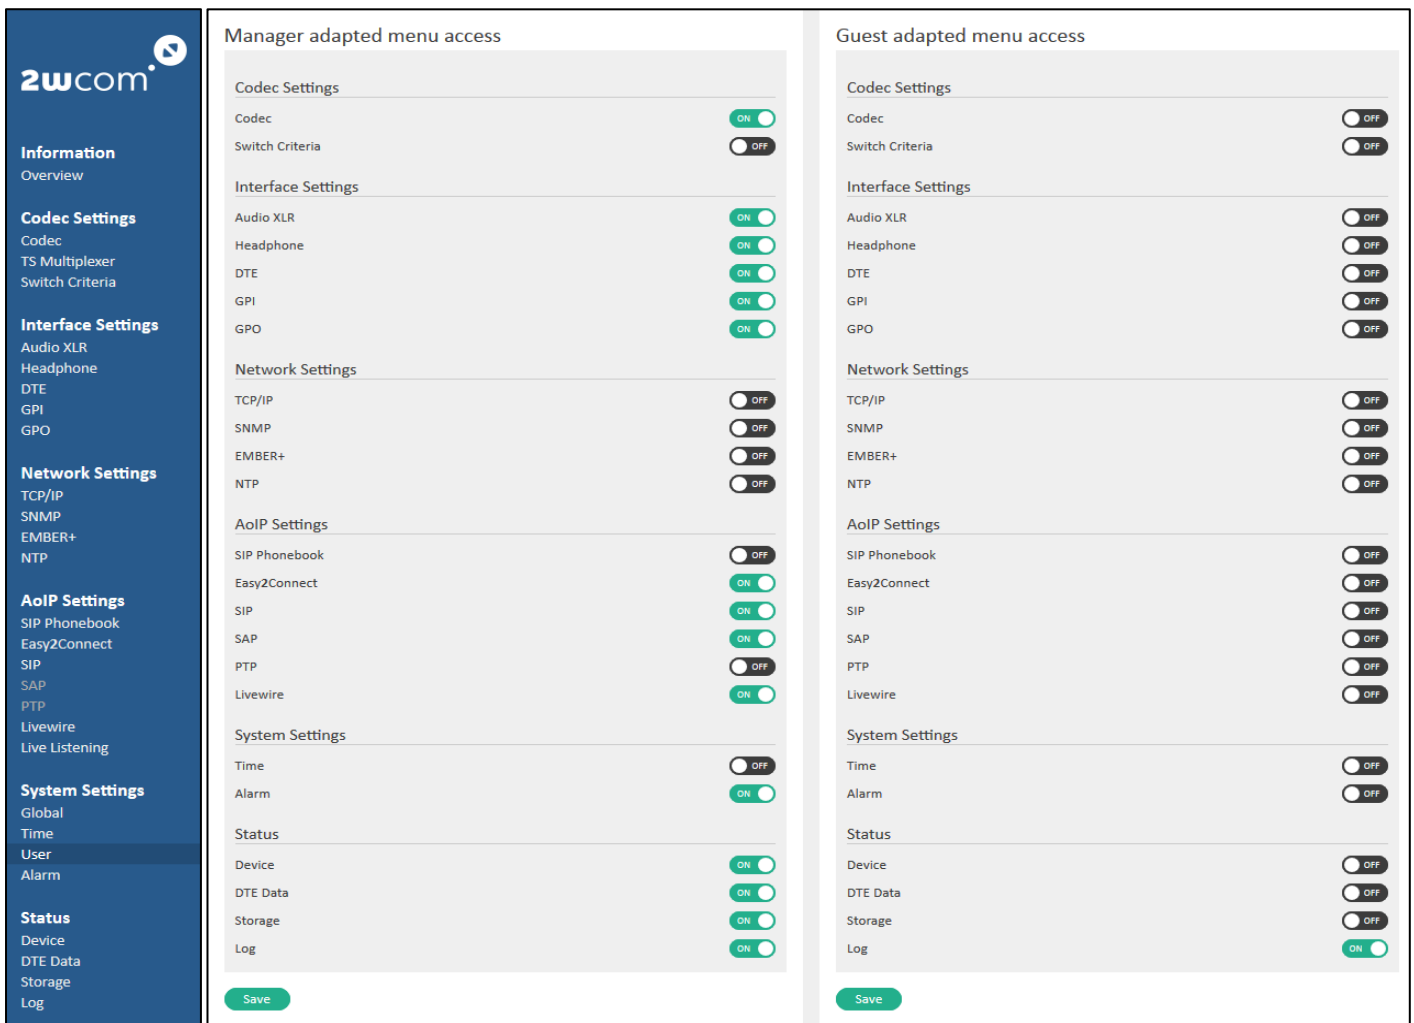

Figure 96: User - Configuration of the menu access
NOTE: Certain settings are **not** available in the “Manager” account. The access to separate menus can be adapted by the “admin” (see Figure 96 on page 108).
2. In the additional fields “Manager-” and “Guest adapted menu access”, below the configuration menus for user accounts, you can activate or deactivate the access to the separate menus by activating a virtual switch to “ON” or “OFF”(see Figure 96):